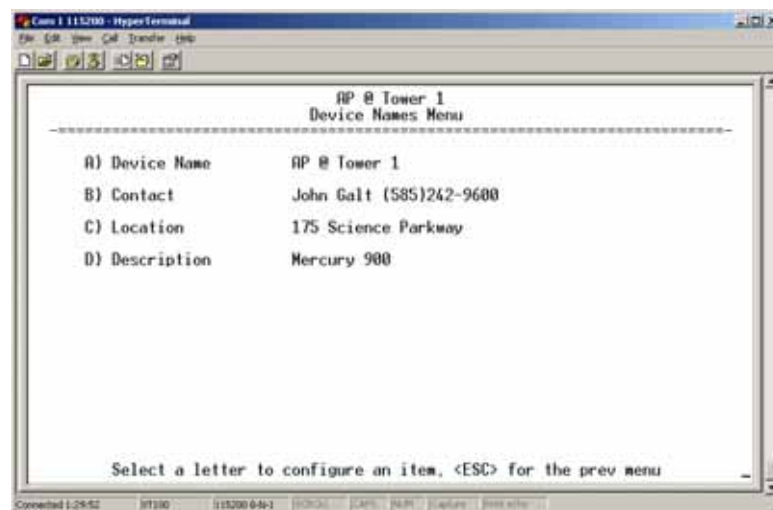

Figure 3-80. Device Names Menu
- **Device Names**—Fields used at user’s discretion for general administrative purposes. The Device Name field is shown on all menu screen headings. (See Figure 3-80 on Page 109)